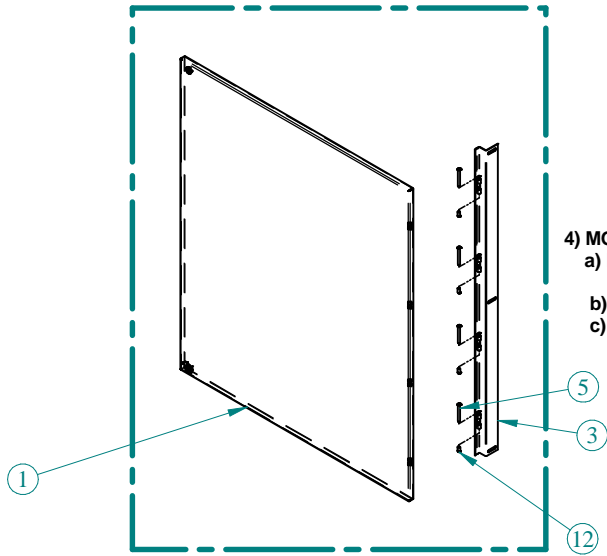

FIG. 4
- 4) MOUNT SWING PANEL / FRAME TO HINGE VERTICAL RAIL (FIG. 4)